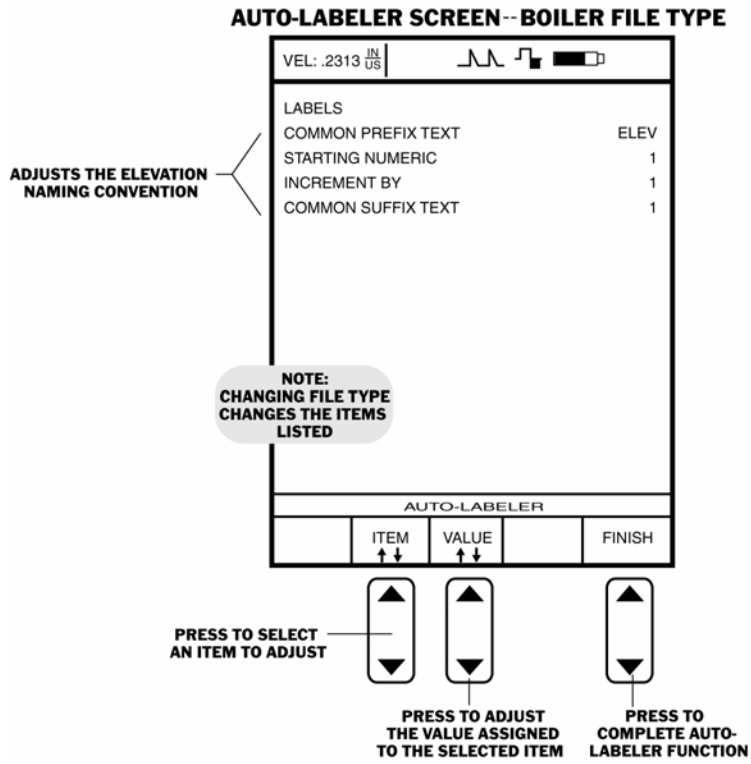

FIGURE 3-11—An Auto-Labeler screen is shown here.
Step 10: If a BOILER or CUSTOM (linear, point, or grid) file type is chosen, customized labels must be inserted using the AUTOLABELER feature. Use the following procedure and refer to Figure 3-11 to properly specify data-file labels using the AUTOLABELER feature.
Step 5: Select the item you wish to modify. For instance, if you wish to change the name given to an Elevation (like the elevation name shown in Figure 3-11) from ELEV1 to